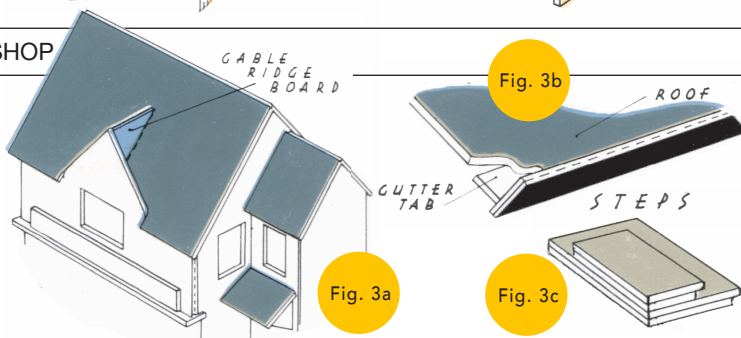
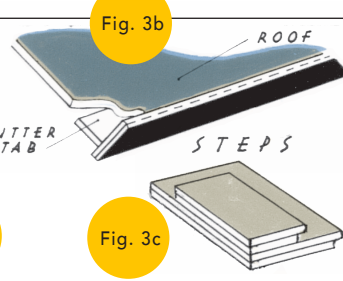
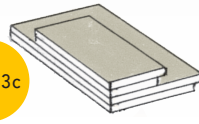

Fig. 3a
Fig. 3b
Fig. 3c
- 3** Glue the SUPERMARKET ROOF in place in two stages starting with the front half, checking that the side overlap is parallel. Add the GABLE RIDGE BOARD and glue a GABLE ROOF in place followed by its BARGE BOARD (Fig. 3a). Prepare the RIDGE TILES as follows. Cut through the short lines marked Z. Turn the card over and join these cuts with a pencil line. Hold the card against the light to check that these lines are running accurately down the middle of the tiles before scoring the lines with a blunt knife. Turn the card over again, bend the tiles double, crease them well, cut away the waste and separate. Make up the CHIMNEY STACK using the same method of scoring, add the CHIMNEY TOP and glue the stack in place. Add the RIDGE TILES. Cut out the CHIMNEY POTS. Take one, dampen it and roll it tightly between finger and thumb until a solid rod is formed. Glue up the end edge and with rolling strokes of the knife, cut in half to make two pots. Fix in place with a generous amount of glue. Prepare the GUTTERS by making light bending cuts along the red arrow lines. Bend right back along these lines before opening flat again and cutting out. Bend over and glue down for double thickness the two solid black sections leaving the TAB to be bent up and glued to the underside of the ROOF (Fig. 3b). Add the PAVING, set under the front wall. Make up the STEPS (Fig. 3c). To complete the model add the chosen NAMEBOARD and SUNBLIND.